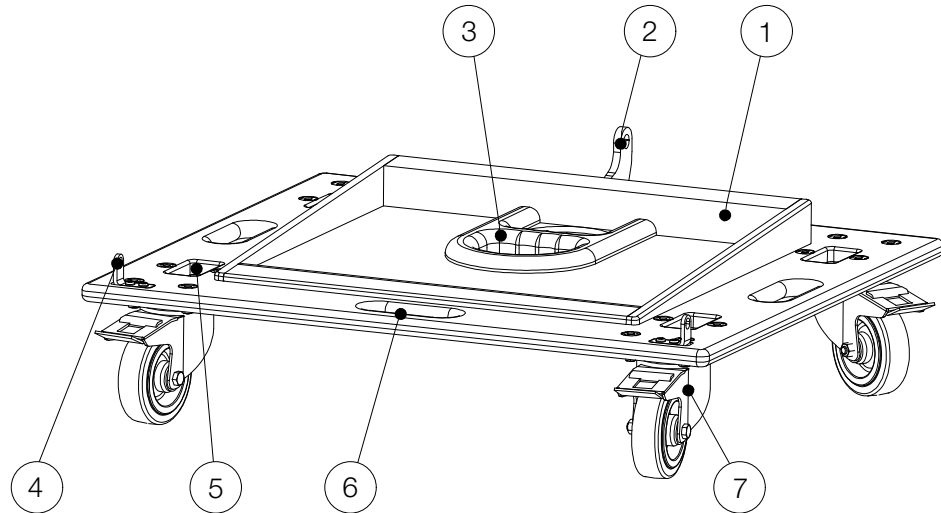

Figure 2.1 - Overview
4. Now attach the two locking pins of the VERA36 into the holes in the front angles (see figure 2.1-pos.4) of the VERA DLV36 dolly.
6. Now attach the rear locking pin of the VERA36 to the hole in the retaining bracket (see figure 2.1 - pos.2) of the VERADLV36 dolly.
The VERA DLV36 dolly can be stacked for storage. For this purpose, recesses (see figure 2.1 - Pos.5) are provided in the dolly (see figure 2.1 - Pos.1).